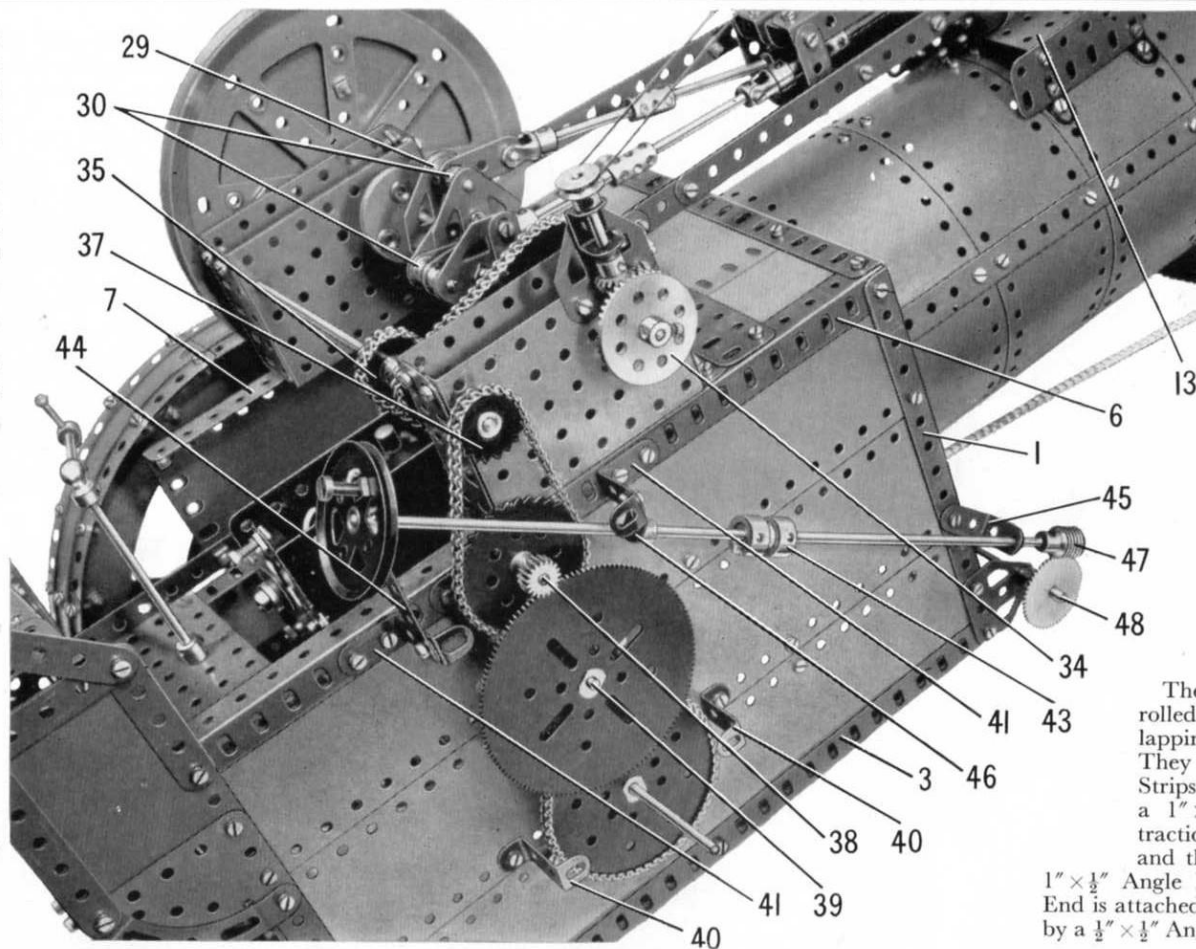

FIG 8. The off-side of the Traction Engine with the rear wheel removed to reveal the drive to the back axle
mounted in the side of the body and in a Double Bent Strip bolted inside the girder (6). The Rod is held in place by a Collar. A  $\frac{1}{2}$ " Pinion is also fixed on Rod (38) and meshes with a  $3\frac{1}{2}$ " Gear on a  $3\frac{1}{2}$ " Rod (39), which is supported in the side of the body and in a  $2\frac{1}{2}$ " Angle Girder bolted to the girders (21) (Fig. 4). Rod (39) carries between the Gear and the body, a  $\frac{3}{4}$ " Sprocket, and this is linked by Chain to a 3" Sprocket on the rear axle. A cover over the gearing is provided by a  $5\frac{1}{2}$ "  $\times$   $3\frac{1}{2}$ " Flat Plate that is bolted to 1" Reversed Angle Brackets (40) (Fig. 8) and to Angle Brackets fixed to 1"  $\times$  1" Angle Brackets (41).
The steering column is a made-up rod formed by two  $6\frac{1}{2}$ " Rods, each of which is fitted with a Collar at one end. The Collars are gripped in a Socket Coupling (43) (Fig. 8) and the complete rod is mounted in a  $2\frac{1}{2}$ " Strip (44), a 1"  $\times$  1" Angle Bracket (45), and an Obtuse Angle Bracket (46). The rod carries at its lower end a Worm (47), and this meshes with a 50-tooth Gear on a made-up rod (48) (Fig. 4), consisting of two  $4\frac{1}{2}$ " Rods joined by a Coupling. The rod is mounted in Flat Trunnions bolted to the body, and it carries a drum formed by two Sleeve Pieces, each of which is fitted at its inner end with a Chimney Adaptor that fits over the Coupling. A  $\frac{3}{4}$ " Flanged Wheel is pressed over each end of the drum and is fixed on rod (48). An endless length of Sprocket Chain is passed several times round the drum, and round the Toothed Disc of the front wheel assembly.